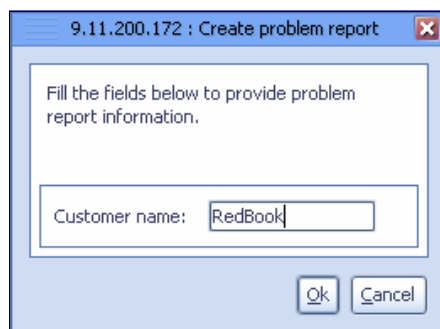

Figure 10-71 Create problem report window
5. The Create problem report window opens (Figure 10-71). Give a customer name to the system.